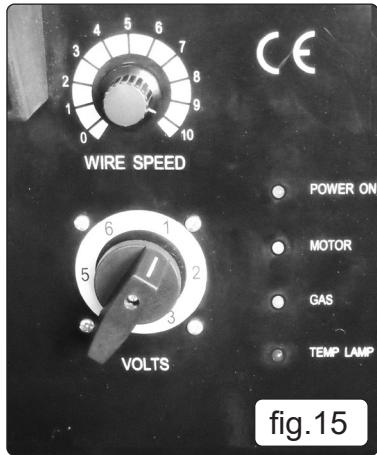

fig.15
**5.1.6. Overload Protection.** Thermostatic overload protection is provided. When an overload occurs the TEMP LAMP on the front panel will light. See fig.15. When an overload has occurred, leave the unit to cool. The thermostat will automatically reset the unit when the temperature has returned within limits.